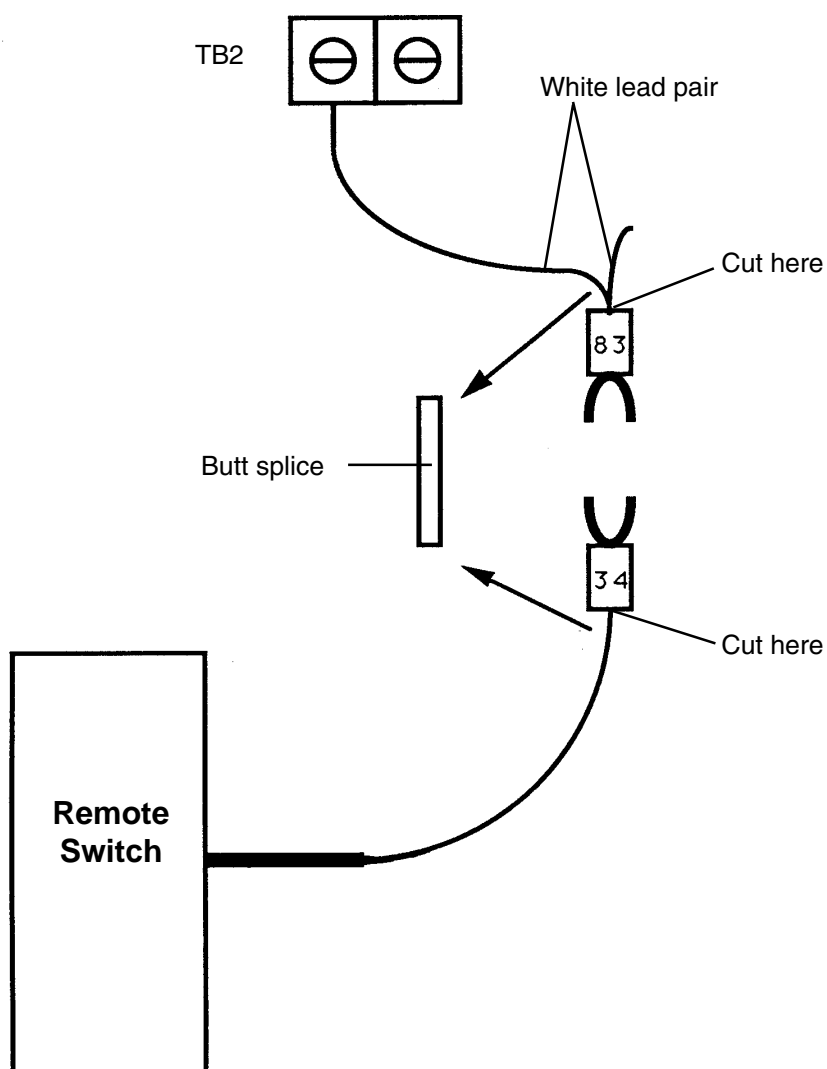

Figure 4 Splicing Remote Switch Wire 34 to Power Supply 83 Wires
6. Splice the lead pair marked 83 that indicates continuity to TB2 with the remote switch black lead marked 34 as follows (see Figure 4):